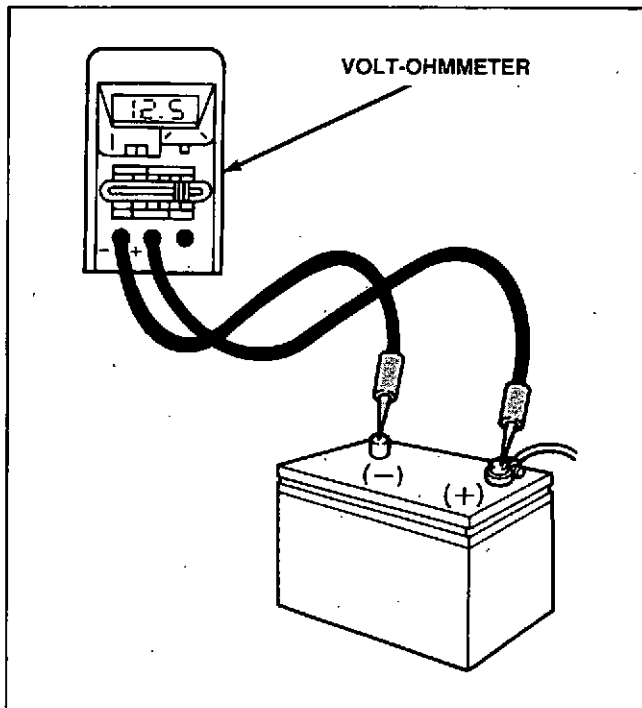

Figure 3-5 Open Circuit Voltage (OCV) Test
2. With the engine and all accessories off, disconnect the negative battery cable. Touch the volt-ohmmeter's fixed probe to the negative (-) terminal and the volt-ohmmeter's red lead to the positive battery (+) terminal. Then read the voltage (Figure 3-5).